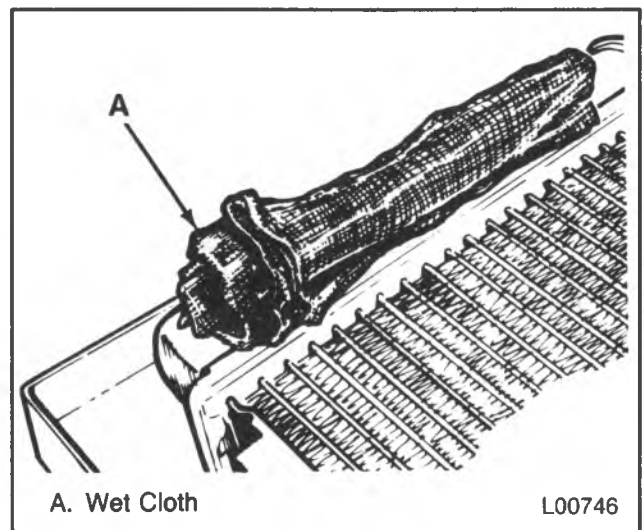
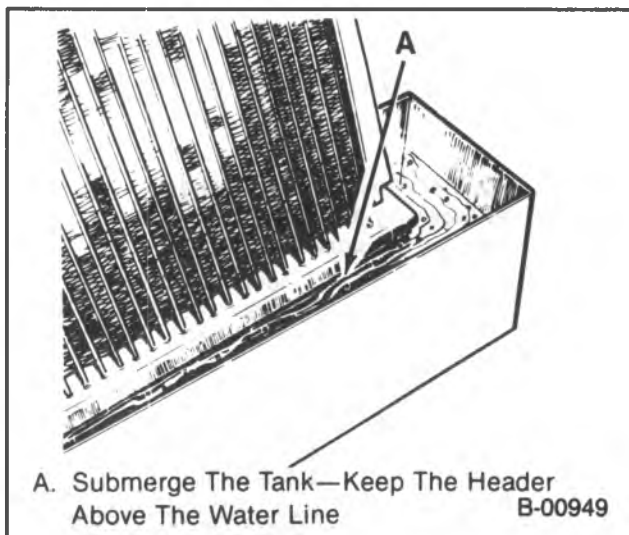

Figure 27 — Using A Wet Cloth to Cool the Side Tank
Figure 28 — Submerging the Side Tank
If the header or a tube near the header requires a repair, the side tank does not have to be removed. Place a damp cloth against the side tank where the repair has to be made (figure 27). The side tank can be submerged in a tank of water up to the header (figure 28).
2. Apply a wet cloth if you are working near the plastic tanks or the joints between the core tubes and header (figure 27), or submerge the tank in water (figure 28).